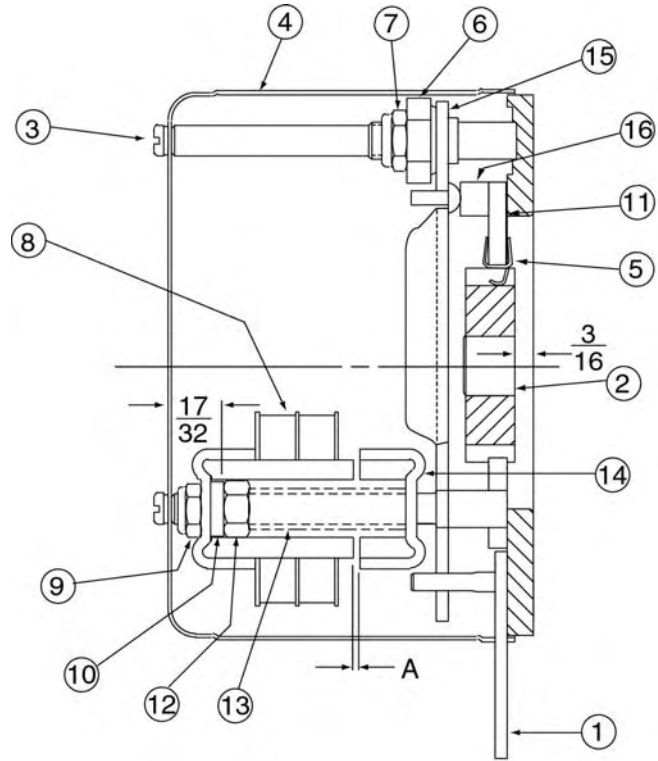

Figure 4. Brake Gap Adjustment
## MANUAL RELEASE (See Figure 4)
### FRICITION DISC REPLACEMENT (See Figure 4)
1. Remove the three cover screws (3), cover (4), nuts (9), magnet assembly (8), washers (10), nuts (12), torque springs (13), armature (14), nut (7), nut (6), pressure arm (15) and stationary disc (16).
2. Install new rotating disc (11) making sure anti-rattle spring (5) is installed in position shown and does not rest in a hub tooth space containing a set screw.
NOTE: In reassembly, tighten nut (6) so that it just makes contact with pressure arm (15). LOCATE nut (12) 1/2" from end of stud as shown in Figure 4. Tighten nut (9) as described under MAGNET ASSEMBLY REPLACEMENT. Readjust magnet air gap as described under WEAR ADJUSTMENT.
### WEAR ADJUSTMENT (See Figure 4).
### MAGNET ASSEMBLY REPLACEMENT (See Figure 4)